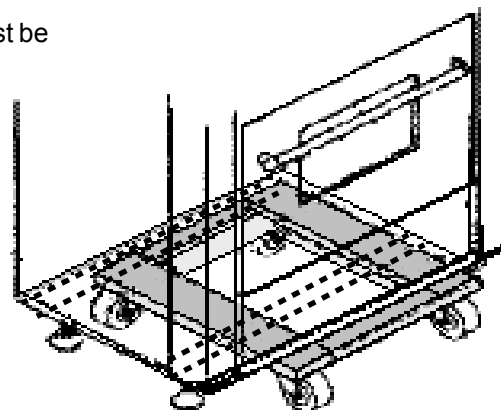

FIGURE 7: FURNITURE DOLLY POSITIONING
- Due to the weight, a furniture dolly with soft wheels or an air lift should be used to move this unit. The weight must be supported uniformly across the bottom (see *Figure 7*).